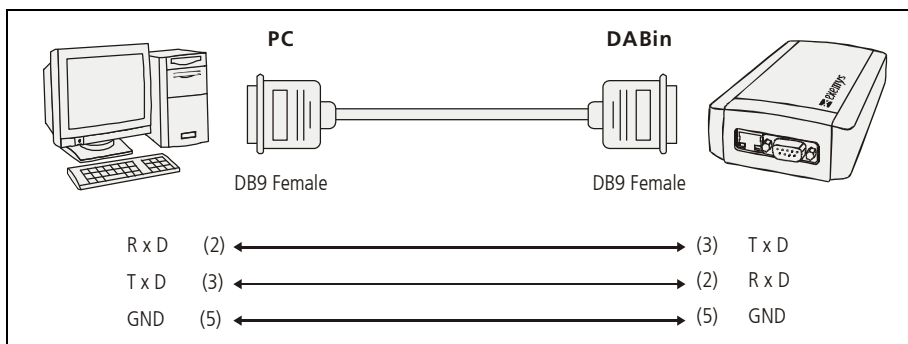

Figure 5 - Connection of DABin (DTE) to a PC (DTE) using RS-232 Serial Port
The RS-232 Serial Connection, included in all DABin models, is found in connector DB9-Male (2). To connect another DTE to DABin's RS-232 Serial Port, use a crossover cable, as shows figure 5.